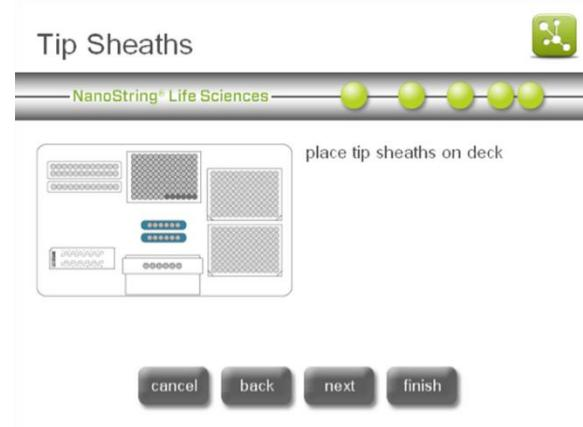

Figure 23: The ‘Tip Sheaths’ screen.
8. The ‘Tip Sheaths’ screen will appear (**Figure 23**).